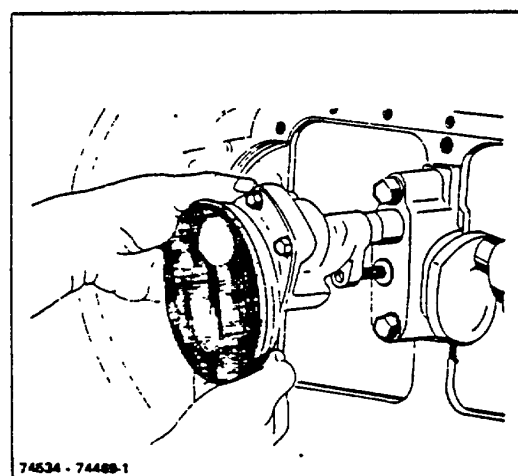

Figure 12-2. Oil Pump Removal
3. With the engine resting on its side, remove nut and washer holding the oil pump assembly to the center main bearing cap. Remove the oil pump assembly (Figure 12-2).